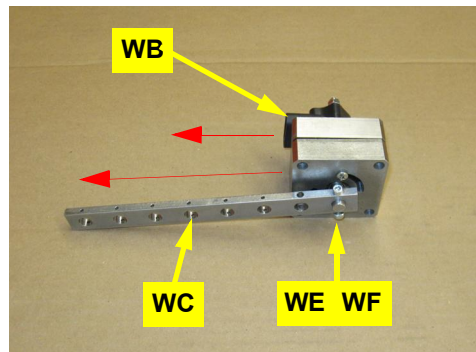

Figure 1c: Attached WAS arm
- c. Attach the WAS arm **WC** to the WAS using the provided hardware **WE** (screw) and **WF** (nut). Mount the arm in the same direction as the WAS wire connector **WB** (Figure 1c).